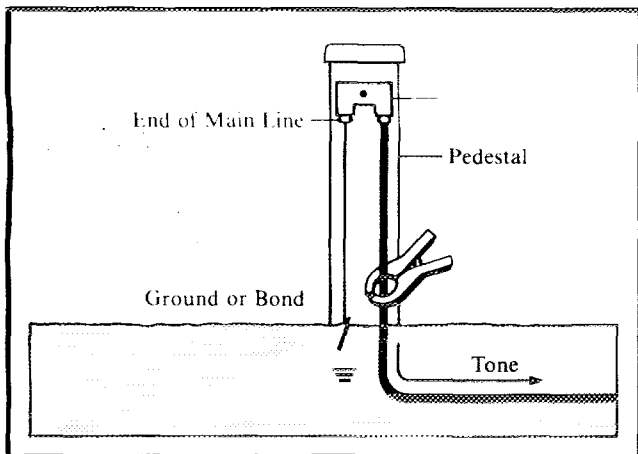

Figure 7 Coupling Points
positioning points would be at the end of the main line or at the subscriber's house. (See Figure 7)
3. **NEAR END COUPLING:** To supply tone from the end of a cable, the end of the cable must be bonded or grounded. (See Figure 7)